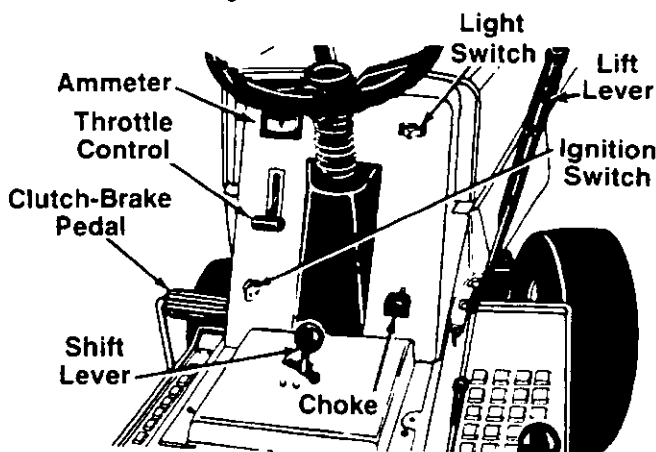

FIGURE 15.
The throttle control is used to regulate the engine speed. To get maximum efficiency from cutting, the throttle should be in the FAST position when operating the mower. See figure 15.
The choke control is located on the dashboard and is operated manually. Details for the choke operation are covered in the separate engine manual packed with your unit. See figure 15.
REVERSE. See figure 15. The clutch-brake pedal must be depressed and the lawn tractor must not be moving when shifting gears. Do not force the shift lever. Release the clutch-brake pedal slightly to line up the shifting collar in the transmission. Then try to shift gears.
Turn the key to the START position to start the engine. When the engine is running, let the key return to the ON position. To stop the engine, turn the key to the left to the OFF position and remove it to prevent accidental starting. See figure 15.
Push the light switch to turn on the lights. The lights will only operate when the engine is running. See figure 15.
the opposite side (charging) when the engine is running in the fast position until the battery is completely charged. With a fully charged battery or with the engine idling, the ammeter will not show a charge. See figure 15.
The clutch-brake pedal is located on the left side of the lawn tractor. Depressing the clutch-brake pedal part way disengages the clutch. Pressing the pedal all the way down disengages the clutch and engages the disc brake. See figure 15.
4. Set the throttle control in the FAST position. See figure 15.
6. Turn the ignition key to the START position. When the engine is running, let the key return to the ON position. See figure 15.